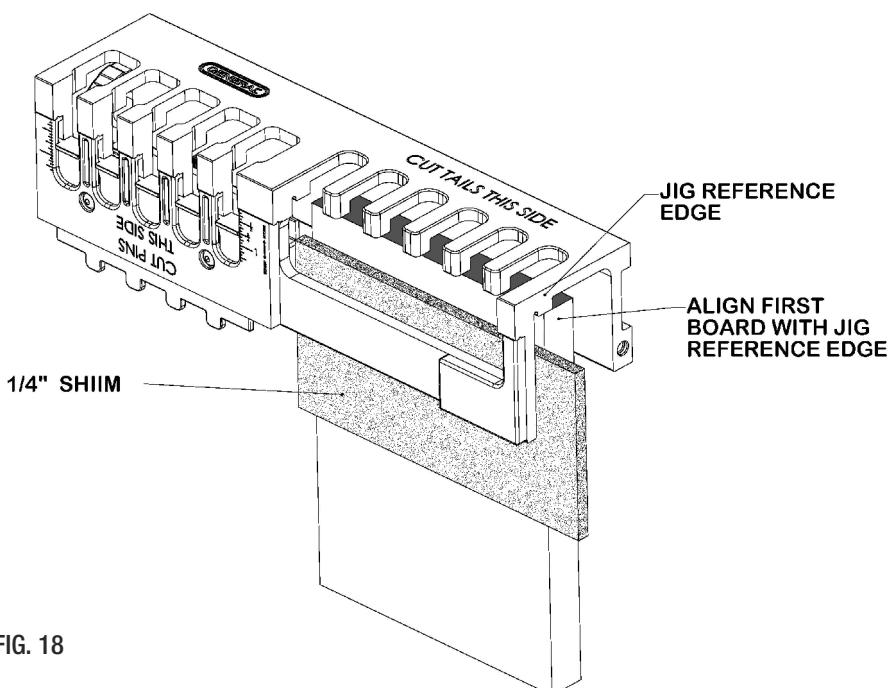

FIG. 18
2. Insert the first board into the "TAILS" section of the Dovetail Jig along with 1/4 in. thick shim to offset the board away from the rounded postion of the template in the jig. (FIG. 18)
3. Align one edge of the board to be cut with the outside edge of the jig. (FIG. 18)